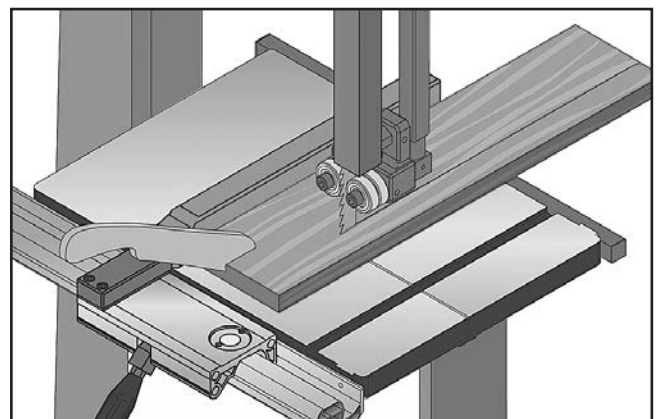

Figure 56. Example of typical ripping operation with a push stick.
3. After all safety precautions have been met, turn the bandsaw **ON**. Slowly feed the workpiece into the blade and continue with the cut until the blade is completely through the workpiece. **Figure 56** shows a typical ripping operation. **Note:** *If you are cutting narrow pieces, use a push stick to protect your fingers.*